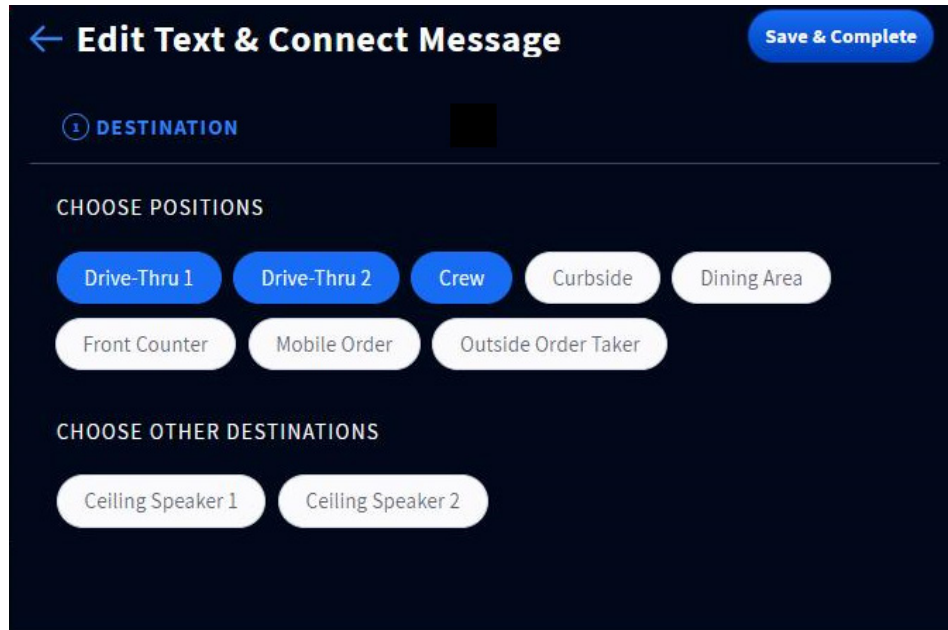

Fig. 8.10
3. This opens the Edit Text & Connect Message page (Fig. 8.10). Tap the crew positions listed to target a specific group of headset users. The selected positions change to blue. (Tap any blue
- For example, Fig. 8.10 shows Drive-Thru 1, Drive-Thru 2, and Crew selected. Only these three headset groups will receive messages sent via the Text & Connect feature.